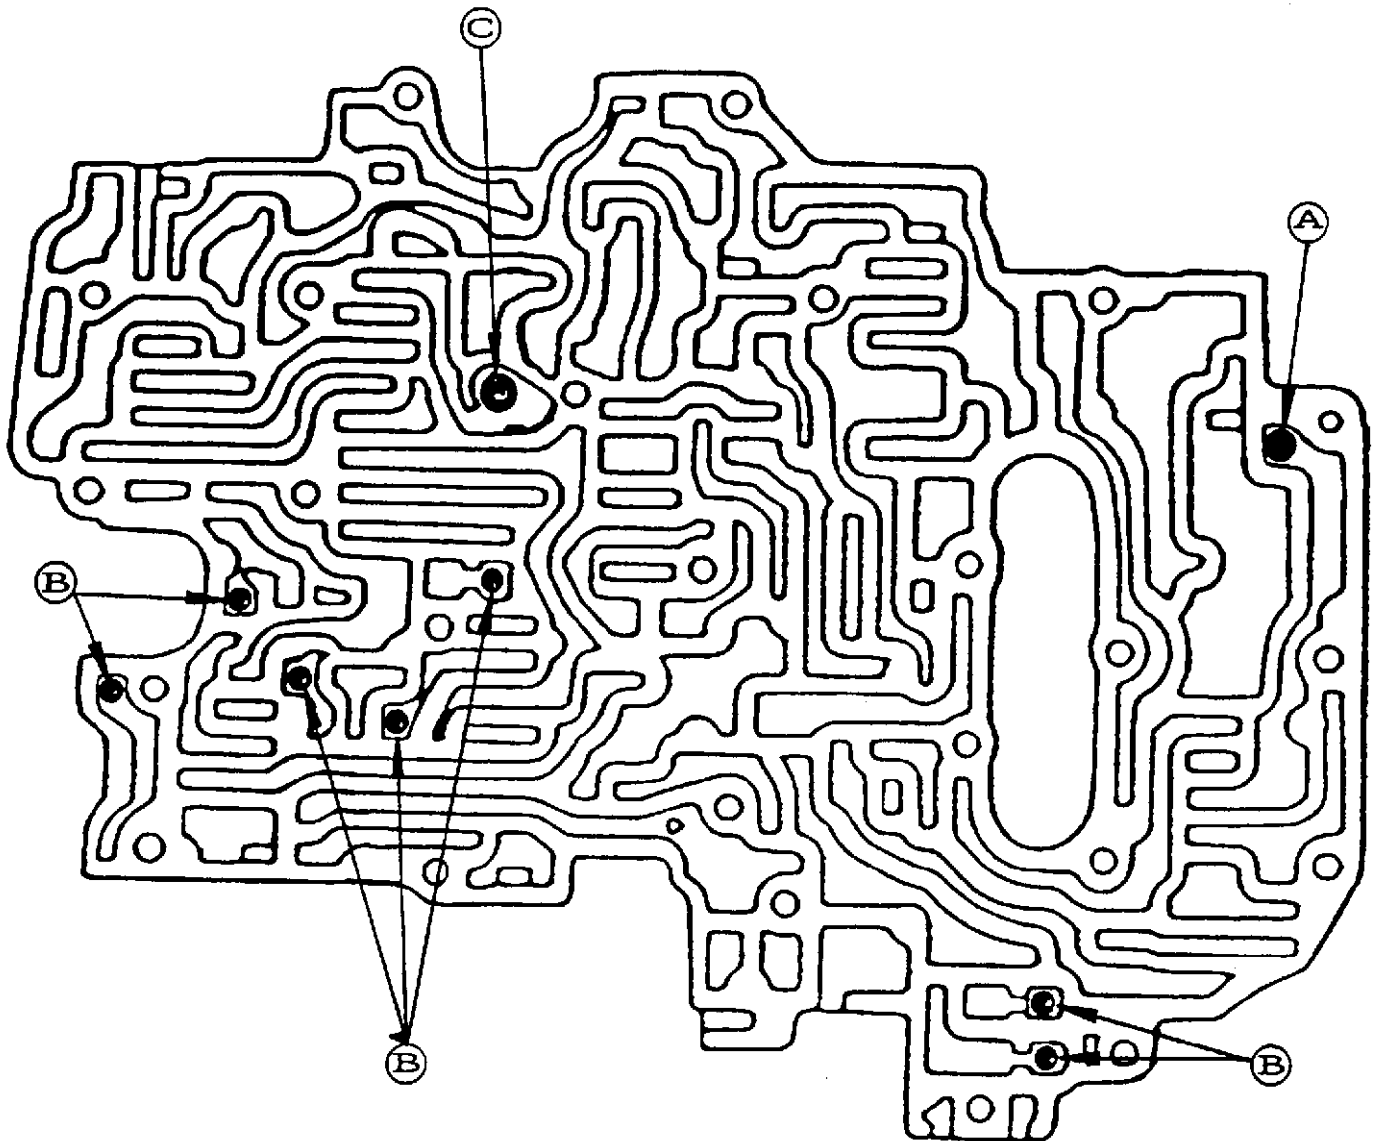

Figure 1
1988-1989 This valve body requires a total of nine (9) checkballs placed in the locations shown in Figure 1. Notice that the checkballs are different sizes, one .250" diameter rubber ball, one .281" diameter steel ball, and seven .218" diameter steel balls. (SEE FIGURE 1).
NOTE: THE CONDITIONS WILL VARY, IF YOU INSTALL A CHECKBALL IN THE WRONG LOCATION, AND DEPENDS ON WHICH CHECKBALL YOU DECIDE TO MOVE, AND WHICH CHECKBALL POCKET THAT YOU DECIDE TO PUT IT IN. USE FIGURES 1 AND 2 FOR PROPER CHECKBALL LOCATION.